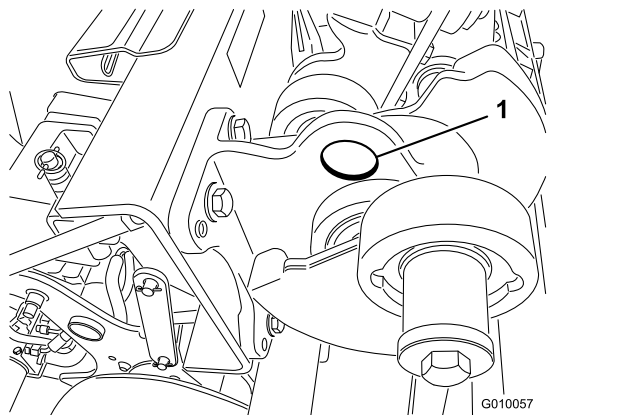

Figure 39
**Note:** If available, use a hoist to lift the rear of the machine. Use the eyelets in the coring head bearing housings as hoist attachment points (Figure 39).